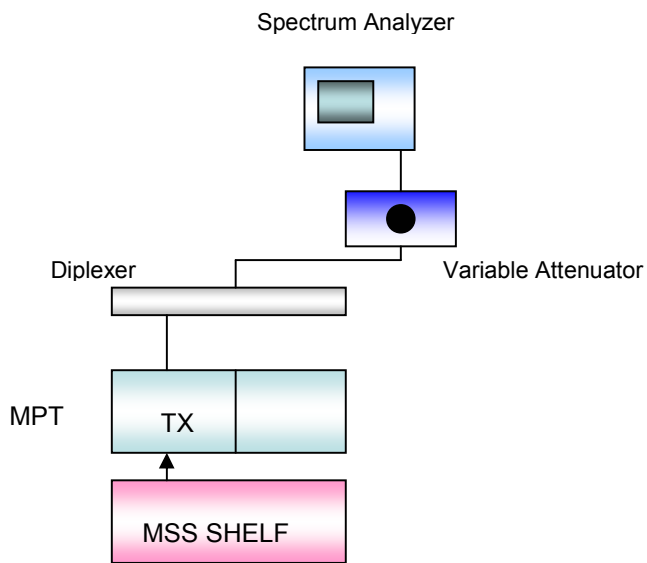

Figure 6 Spectrum Analyzer Setup
- Connect as shown in figure 6